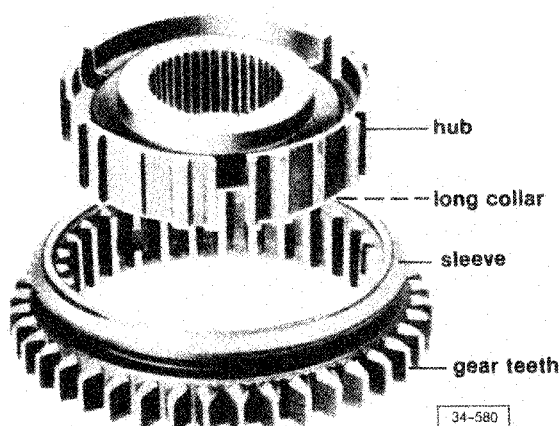
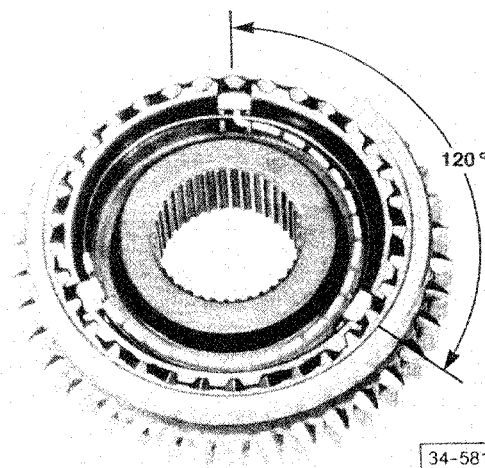

Fig. 10 Synchronizer 1st/2nd gear, assembling
Fig. 11 Synchronizer 1st/2nd gear, assembling
- turn synchronizer ring until grooves are in line with keys (installation position, see Fig. 10 and Fig. 11)